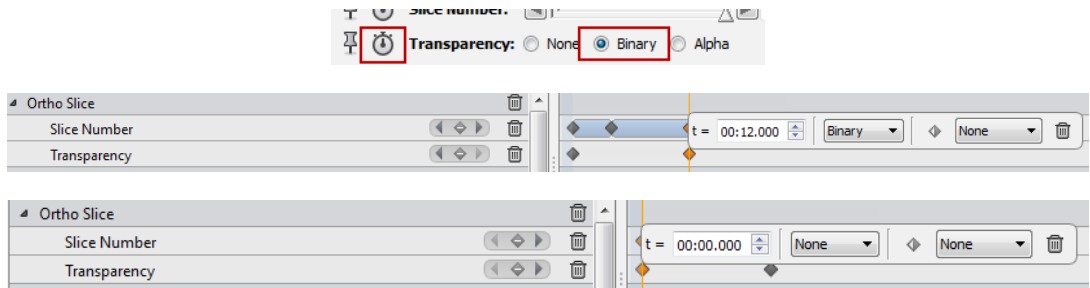

Figure 7.12: Changing the Ortho Slice *Transparency* mode
- Move the master time slider to 00:00, and set the Ortho Slice Transparency to "None" (See Figure 7.12).